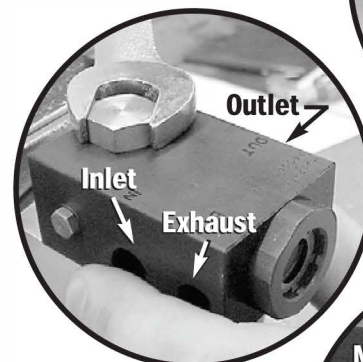

Figure 5
10. With the new DVOA aligned over the hex on the L1200NDVO body, tighten the Valve Bushing using the 9/16" hex wrench. You may need to hold the DVOA while tightening the Valve Bushing to keep it from rotating (see fig. 5).
13. Using the appropriate tools re-install the Inlet, the Outlet and the Exhaust fittings to the new DVOA (see fig. 5).